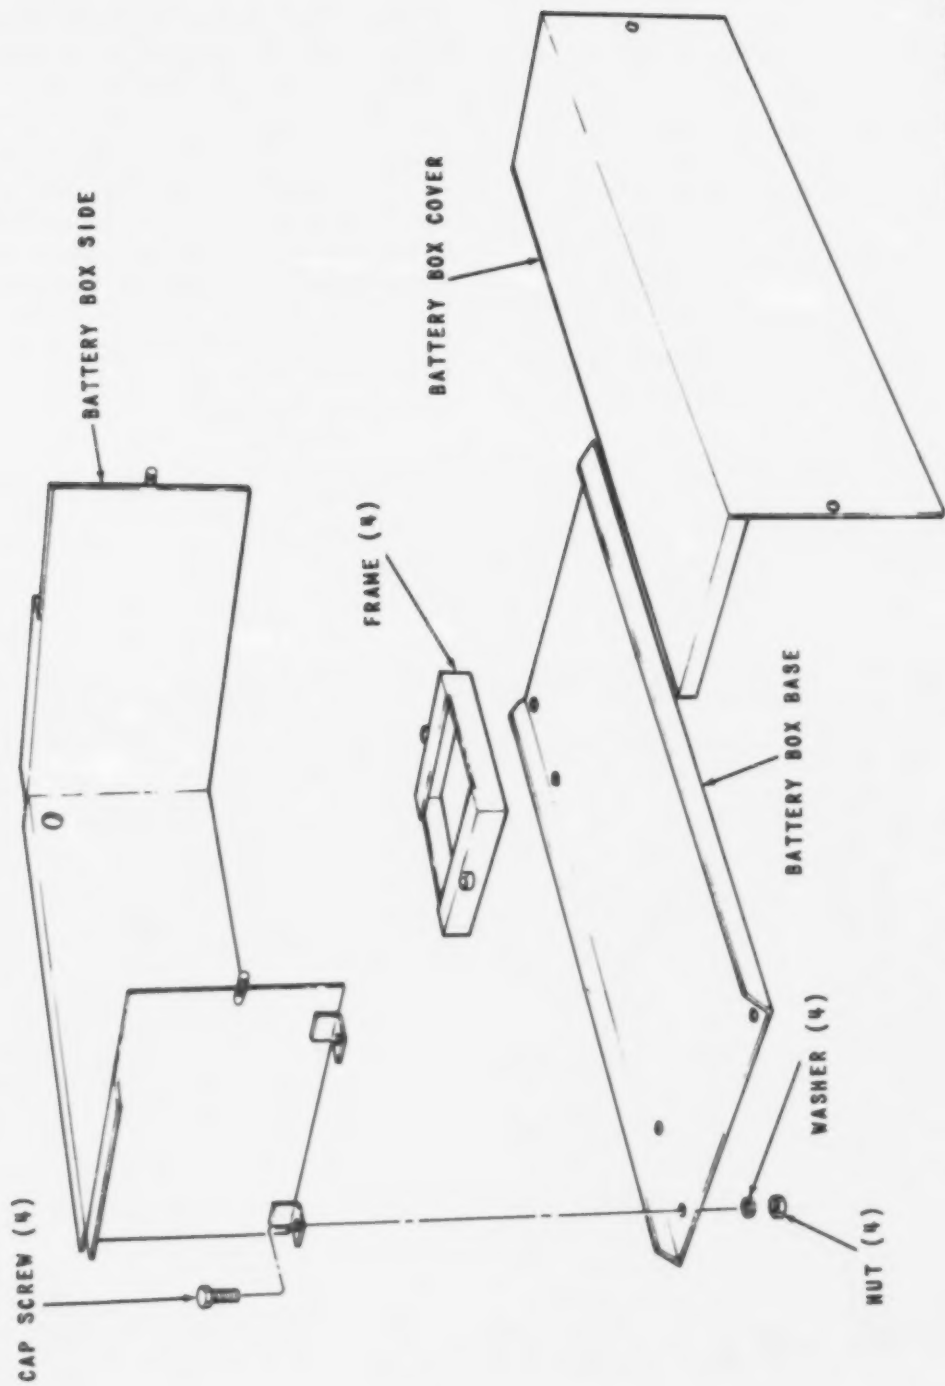

Figure 29. Battery box, exploded view.
b. Disassembly. Disassemble the battery box as illustrated on figure 29.
d. Reassembly. Reassemble the battery box illustrated on figure 29.